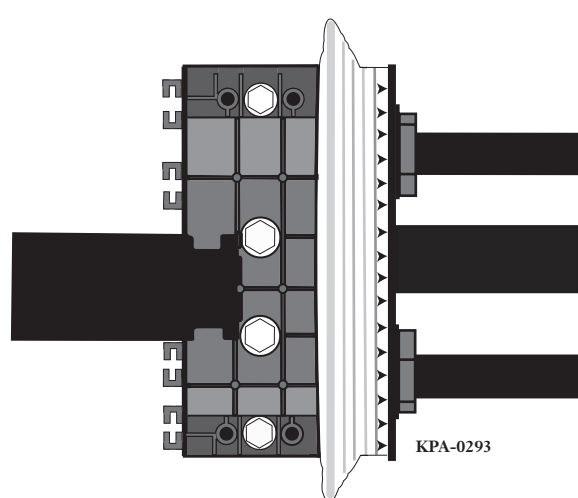

Figure 51 — Fold Sealing Ring
- Step 5** Fold the edge of the seal that overlaps the outside of the end cap until the seal seats in the channel as shown in Figure 51.
**IMPORTANT:** The installed sealing ring must be oriented as shown toward the inside of the closure (Figure 51).